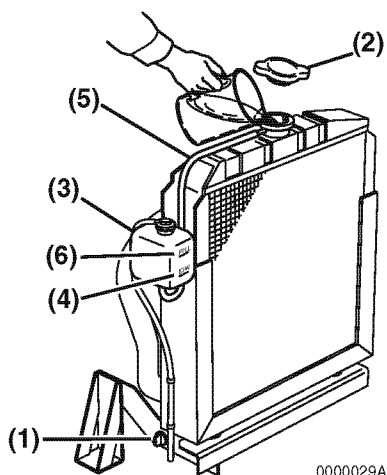
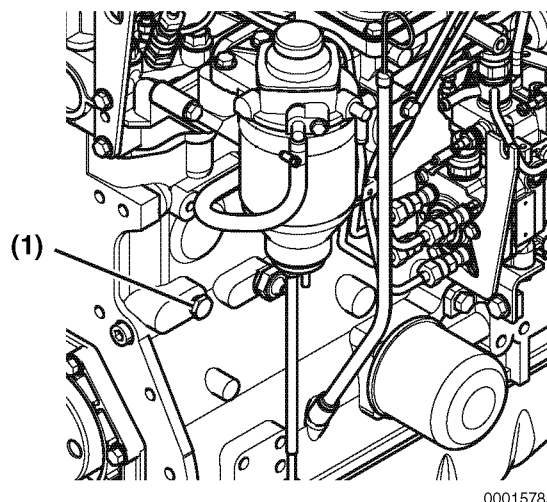

Figure 4-7
Figure 4-8
1. Check to be sure the radiator drain plug is installed and tightened or the drain cock (**Figure 4-7, (1)**) is closed. Also make sure the cylinder block drain plug (**Figure 4-8, (1)**) is installed and tightened.
2. Remove the radiator cap (**Figure 4-7, (2)**) by turning it counter-clockwise about 1/3 of a turn.
4. Reinstall the radiator cap (**Figure 4-7, (2)**). Align the tabs on the back side of the radiator cap with the notches on the engine coolant filler port. Press down and turn the cap clockwise about 1/3 of a turn.
5. Remove the cap of the reserve tank (**Figure 4-7, (3)**), and fill it to the LOW (COLD) mark (**Figure 4-7, (4)**) with engine coolant. Reinstall the cap.
6. Check the hose (**Figure 4-7, (5)**) that connects the reserve tank (**Figure 4-7, (3)**) to the radiator. Be sure it is securely connected and there are no cracks or damage. If the hose is damaged, engine coolant will leak out instead of going into the reserve tank.
7. Run the engine until it is at operating temperature. Check the level of engine coolant in the reserve tank. When the engine is running and the engine coolant is at normal temperature, the coolant level in the tank should be at the FULL (HOT) mark (**Figure 4-7, (6)**). If the engine coolant is not at the FULL (HOT) mark, add additional engine coolant to the reserve tank to bring the level to the FULL (HOT) mark.